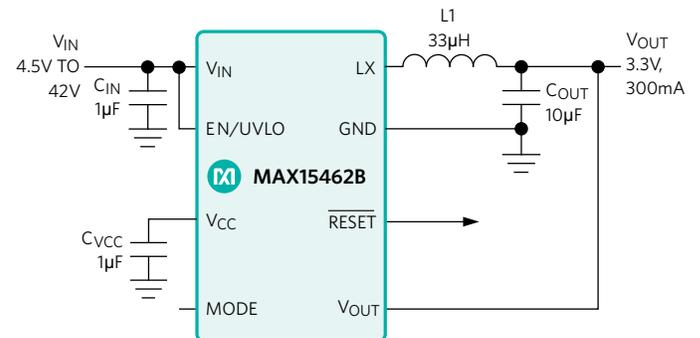

Figure 18. MAX15462B Typical Application Circuit
**Figure 18** shows the typical application circuit for the 5V fixed configuration—optimized for small PCB size—that delivers 5V to a load up to 300mA.